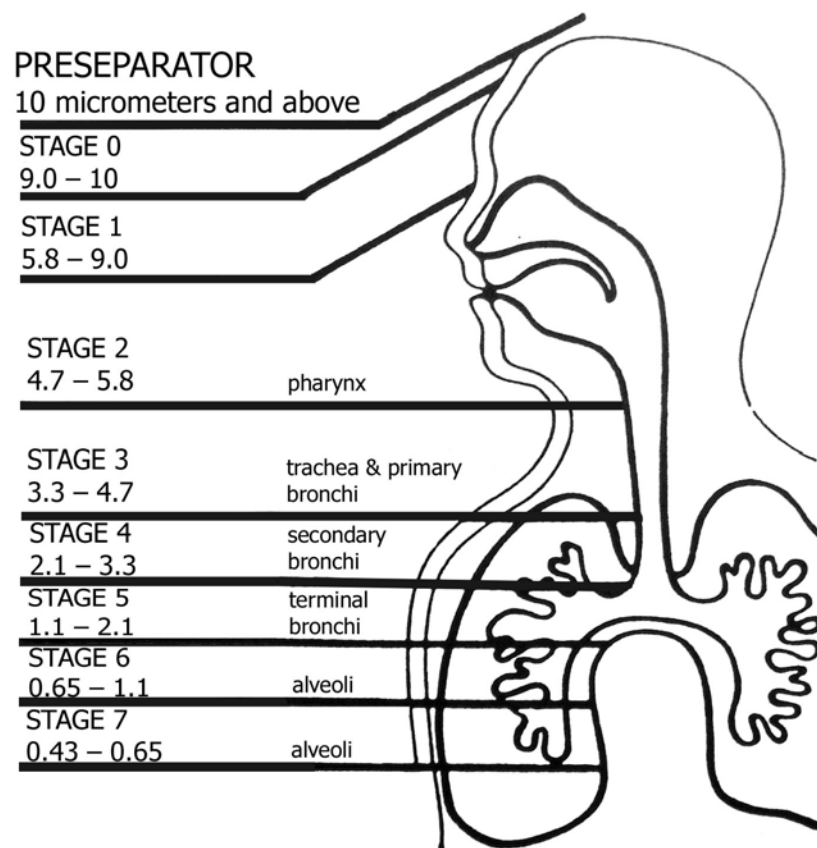
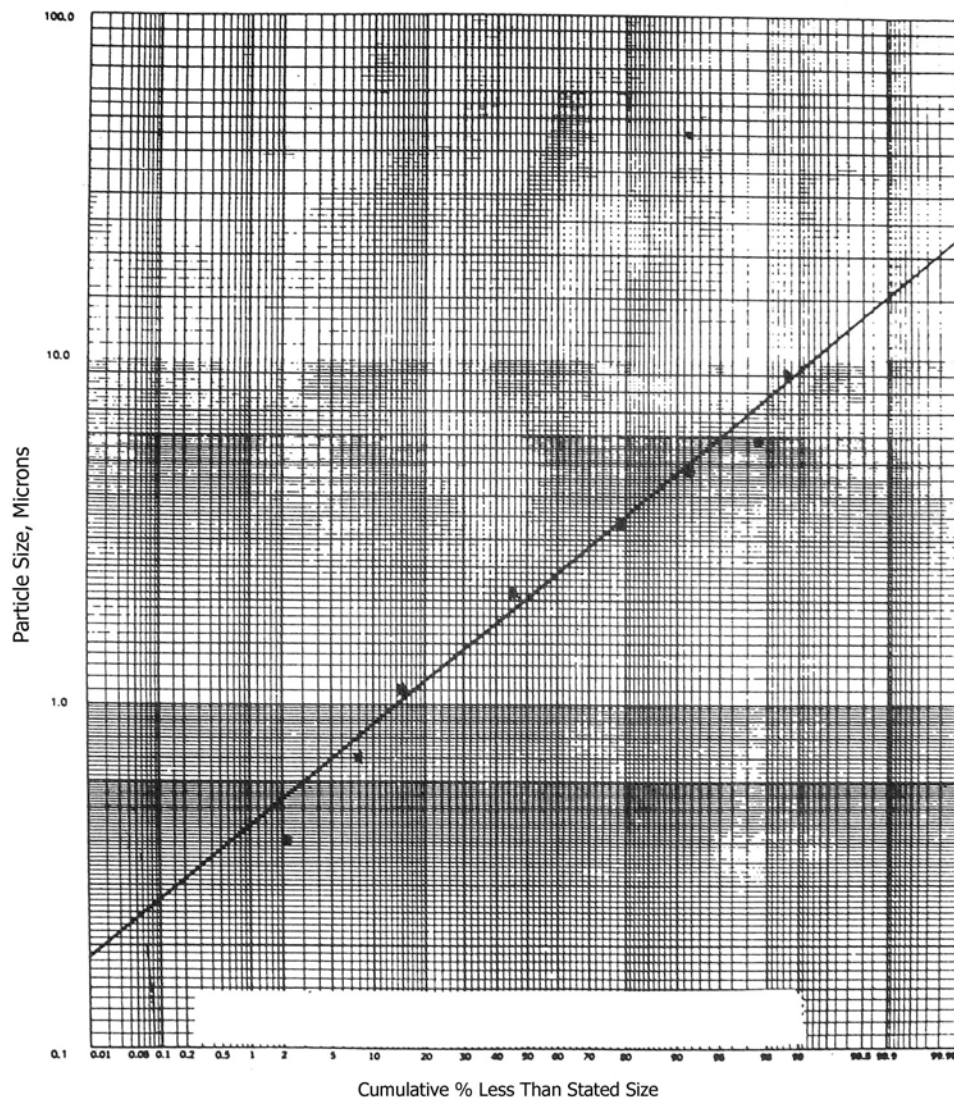

FIGURE 1. TISCH MODEL TE 20-800 SIMULATES THE HUMAN RESPIRATORY SYSTEM
FIGURE 6. AERODYNAMIC PARTICLE SIZE IMPACTION GRAPH
The human respiratory tract is an aerodynamic classifying system for airborne particles.^{2,4} The Impactor is designed as a substitute for the human respiratory tract to collect and separate particulate matter according to its aerodynamic size and property. The fraction of inhaled particles retained in the human respiratory system and the site of deposition vary with size, shape, density and all physical properties of the particles that constitute aerodynamic dimensions^{2,3,6,7} (Figure 1). Because the human lung penetration curves are known to be of unit density spherical particles. The Impactor has been characterized and tested for particle size separation (cut-point)¹². Therefore as long as a standard model of the Impactor is used according to standard laboratory operating procedures, the individual Impactor Stage distribution of collected particle mass will indicate the extent to which the aerosol sampled would have penetrated the human respiratory system. This information is vital to environmentalist, aerosol physicists and industrial hygienists for determining health risk and epidemiology.¹⁵
The combination of a constant Impactor sample flow rate and successively smaller diameter Orifices increases the jet-velocity of Impactor air as it cascades through the Impactor. This results in the impaction of progressively smaller particles in succeeding Orifice Stages. Figure 6 shows a view of a single Orifice Jet and the particle and flow trajectories. The Tisch Impactor design sample flow rate is 28.3 ALPM which fractionates particles in a range from 9.0 to 0.3 micrometers aerodynamic diameter. Particles too small to be impacted on the last Collection Plate are collected on the final absolute filter, F.
- e) Using Figure 1, select the lower size (smallest number) for each particle size range. This number represents the Effective Cut-Off Diameter (ECD) for each Impactor Stage. This ECD can also be determined by viewing Figure 6.